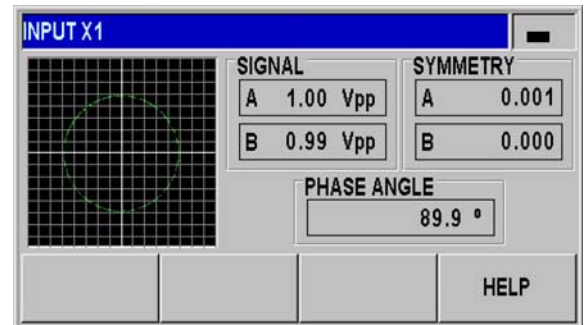

Abb. II.49 Encoder test: 1 Vpp interface
- ▶ As the encoder is moved you will see the signals of the A and B channels as Lissajous figure (see Abb. II.49), as well as the amplitude, symmetry and phase angle signal parameters.